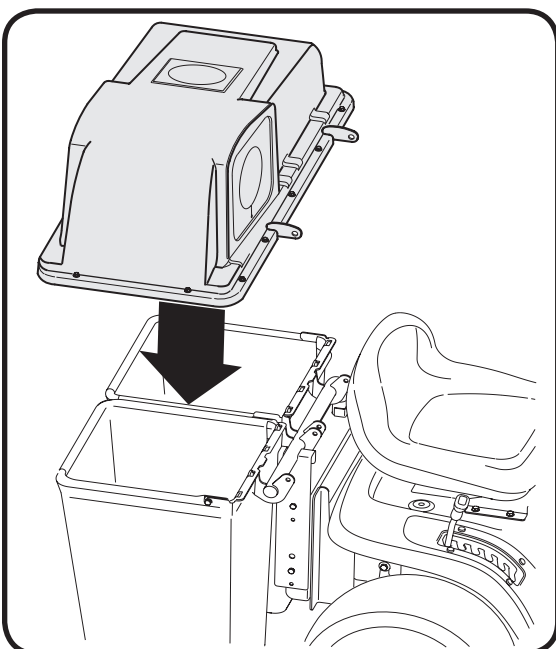

Figure 4-3
4. Place the grass bag cover on top of the grass bags and align the holes on the hinges of the grass bag cover with the corresponding holes on the support tube assembly. See Figure 4-3.